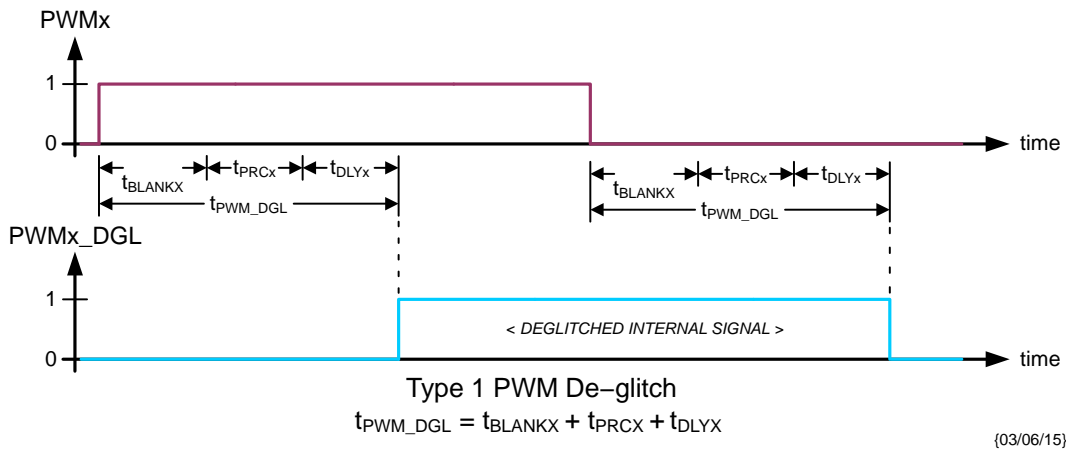
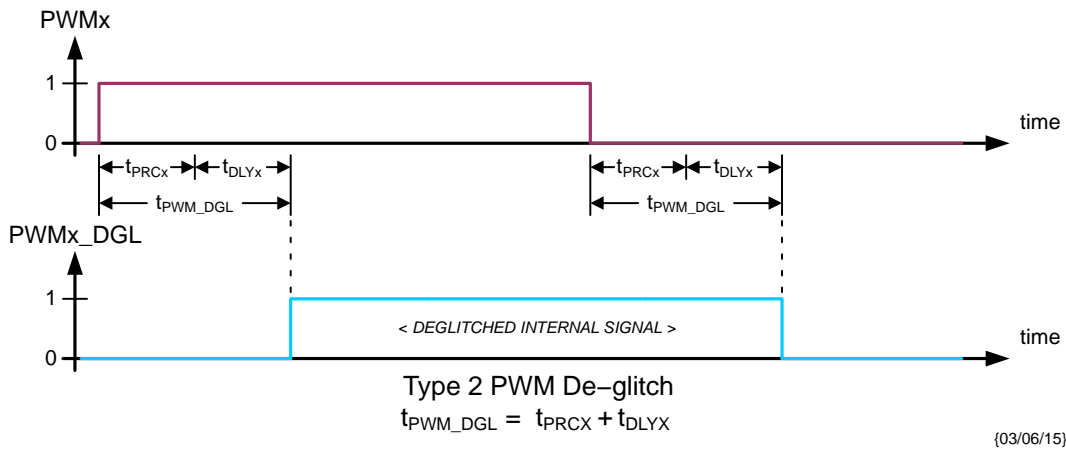
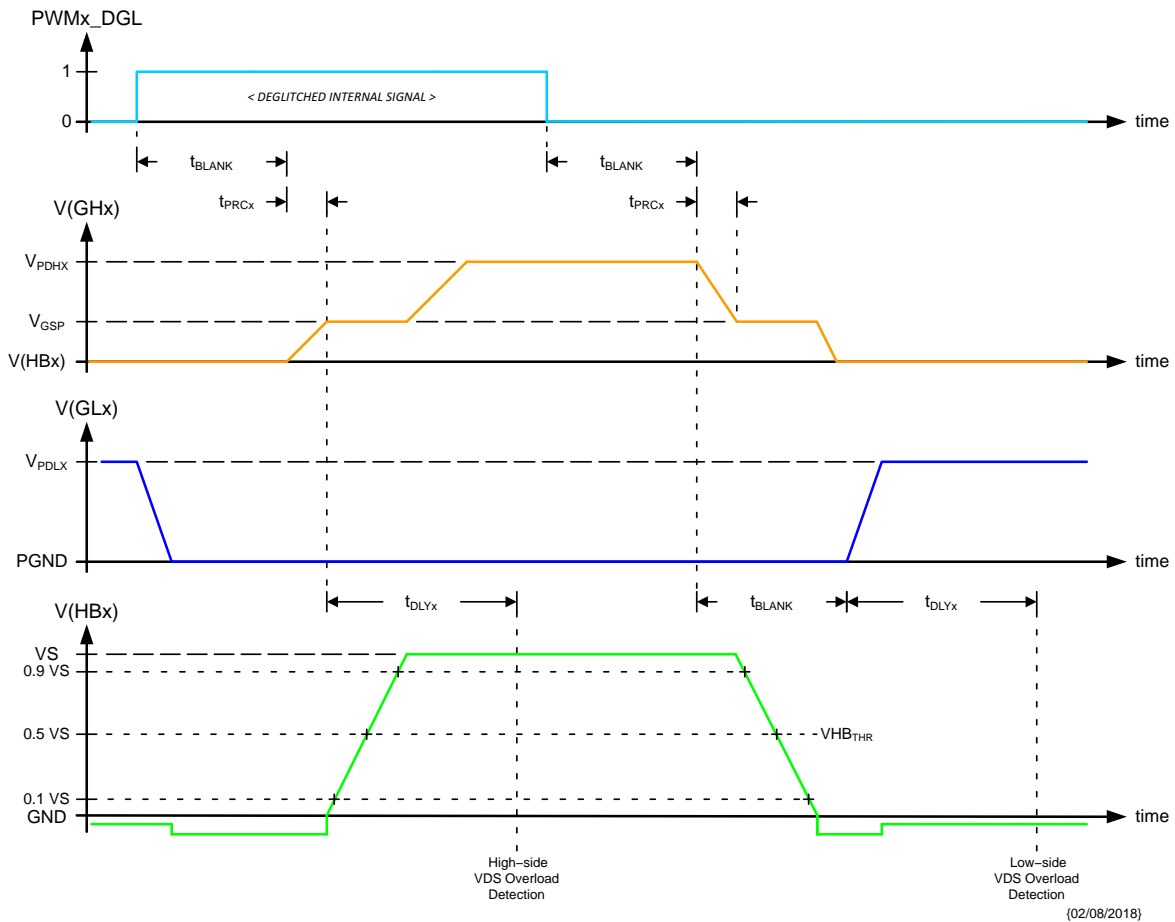

Figure 10. Type 1 PWMx Input De-glitch – CR14.DGLx = 0
Figure 11. Type 2 PWMx Input De-glitch – CR14.DGLx = 1
Figure 12. HBx Output Switching in Half-Bridge Configuration
When multiple PWM_x inputs are needed to be active, the scheduled PWM signals should be offset in time to avoid degradation of the VDS overload detection due to crosstalk (see § *Overload Protection*). The minimum offset should be based on the t_{PWM_DGL} times appropriate for the respective channels (see § *Switching Behavior of Half-bridge Drivers*, Figure 10 and Figure 11).
- adaptive PWM input de-glitch construction when in half-bridge configuration is selected by DGLx[6:0] bits (see Figure 10, Figure 11, Table 21 and Table 22).
In order to not overload the charge pump circuit in case of loss of VS or in case of a disconnected security switch, the steady state output current of the high-side gate drivers is limited to I_{GHX_SS} after $t_{TIMEOUT}$ (see $I(GHx)$ in Figure 12 and § *Electrical Characteristics: Half-Bridge Pre-Driver Outputs*).
When operating in PWM mode, type 1 de-glitch is selected when CR14.DGLx = 0 (see Figure 10) and the adapted time is given by:
Type 2 de-glitch is selected when CR14.DGLx = 1 (see Figure 11) and the adapted time is given by:
When operating in PWM mode, the timing of the gate drivers is according to Figure 12.
- the PWM_x_DGL resulting from the channel's operating configuration (see § *Switching Behavior of Half-bridge Drivers*, Figure 10 and Figure 11);
The appropriate latch is set (after the adapted t_{PWM_DGL} – see Figure 10 and Figure 11) at the start of the switch activation (see V(HBx) in Figure 12). In the case of the high-side MOS, the delay time t_{DLYX} is started at the end of the pre-charge time (t_{PRCX}). In the case of the low-side MOS, the delay time t_{DLYX} is started concurrent with the GLx turn-on current (see I(GLx) in Figure 11). At the end of time t_{DLYX} the switching node voltage is compared with the appropriate VDS_{THR_R} or VDS_{THR_F} overload detection threshold (see § *Electrical Characteristics: Half-Bridge Diagnostics*).